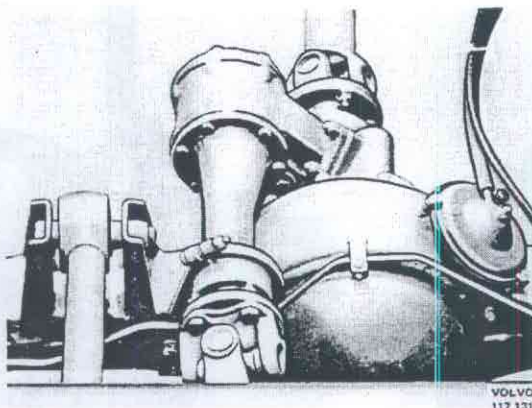

Fig 46-133 Power take-off on the differential carrier
2. Remove the nuts securing the power-take-off to the rear differential carrier, see Fig. 46-133.